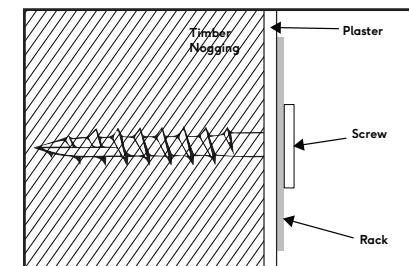

Fig 3/ Timber Nogging
- Fig 3** Into Timber Nogging – Bugle screw (2 per mounting plate)